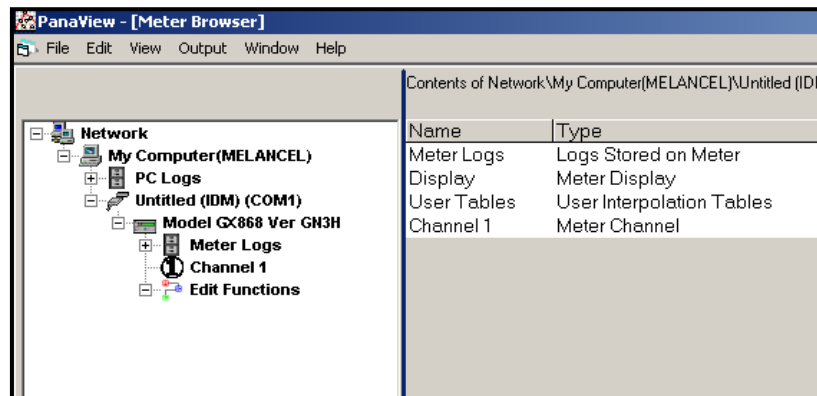

Figure 34: New Meter Browser with Meter Branch
3. Then expand the meter tree as shown in *Figure 34* below.